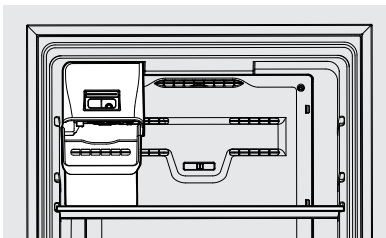

Figure 7
9. To install the ice bin, the freezer shelf needs to be in the lowest position. Slide the ice bin between the side wall and the right side of the ice maker housing positioned on the shelf. See Figure 7.